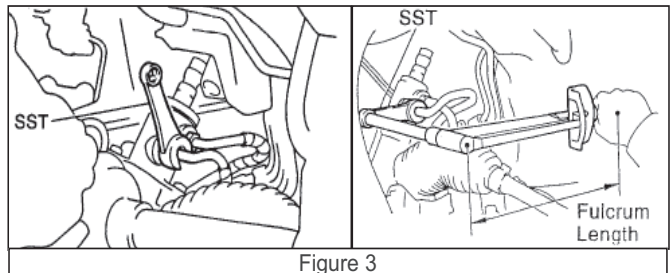

Figure 3
3. Use the correct tools for the installation. For these applications, Toyota suggests certain tools (SST, see figure 3 for typical installation) that will assist and ensure correct installation of this rack & pinion. Refer to the vehicle OE Service Manual for individual installation specifications.